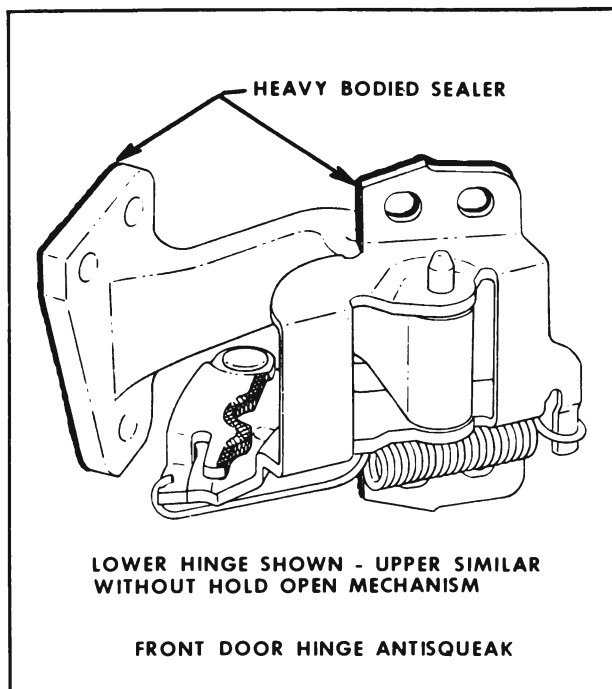

Figure 2-14—Front Door Hinge Anti-squeak
1. As an anti-squeak precaution, before installing door, coat attaching surface of hinge with heavy-bodied sealer (see Figure 2-14).